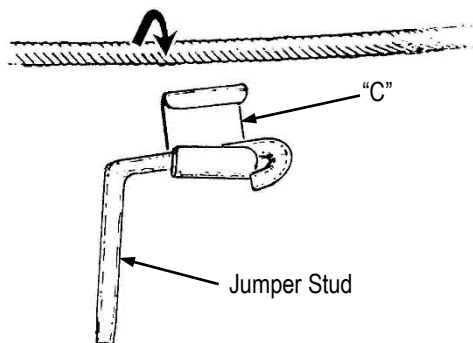

Figure 2
3. Install AMPACT tap and jumper stud utilizing standard AMPACT installation procedures. See Figures 2, 3, and 4.
- Added new table in Figure 2 and CAUTION note to Paragraph 4.1.3